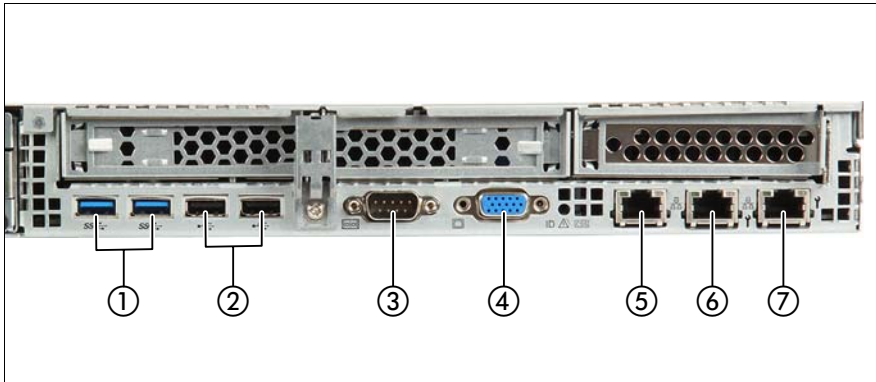

Figure 3: Connectors on the rear
- ▶ Plug the data cable for the monitor into the video connector on the server (item 4 in figure 3 on page 52).